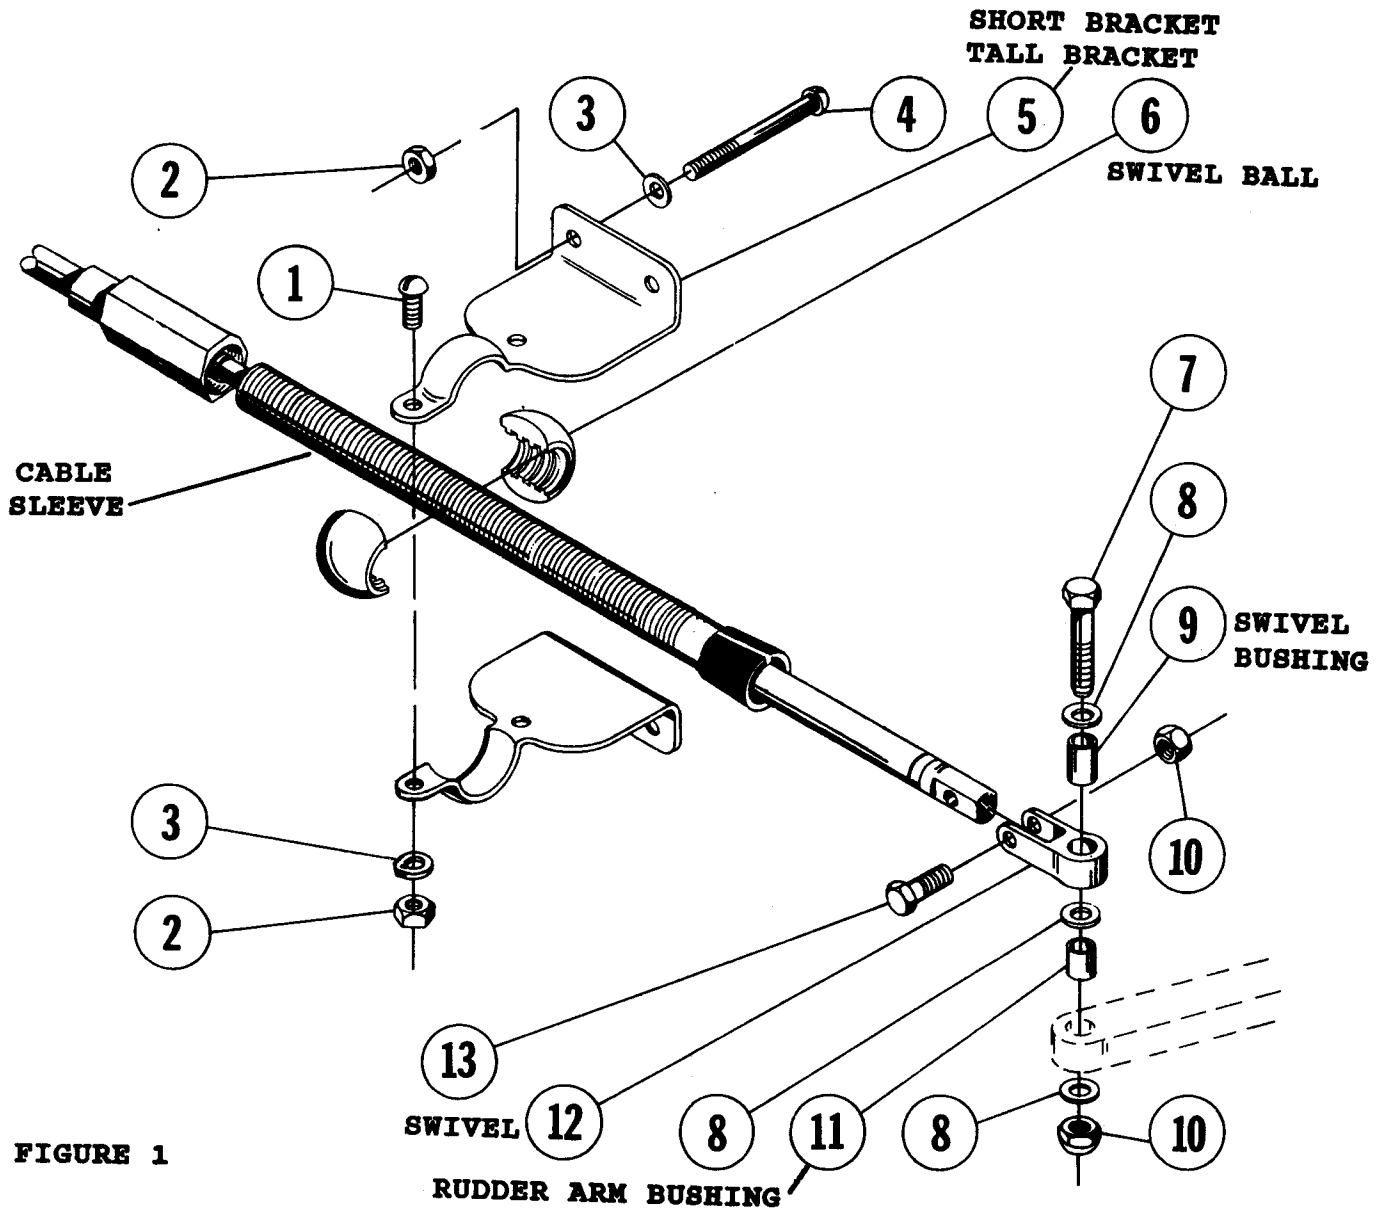

FIGURE 1
- 3.1 Grease the Bushing and insert it into the hole in the Swivel. Assemble the bolt, flatwashers and nuts as shown in Figure 1.